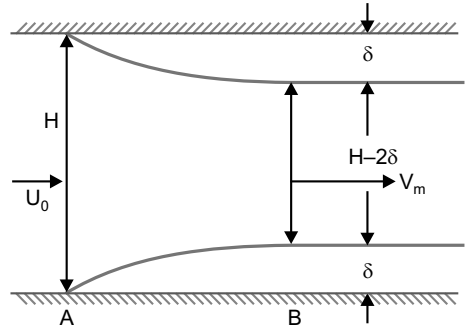

Fig. 10
Q. 41. The ratio V_m/U_0 is (Fig. 10)